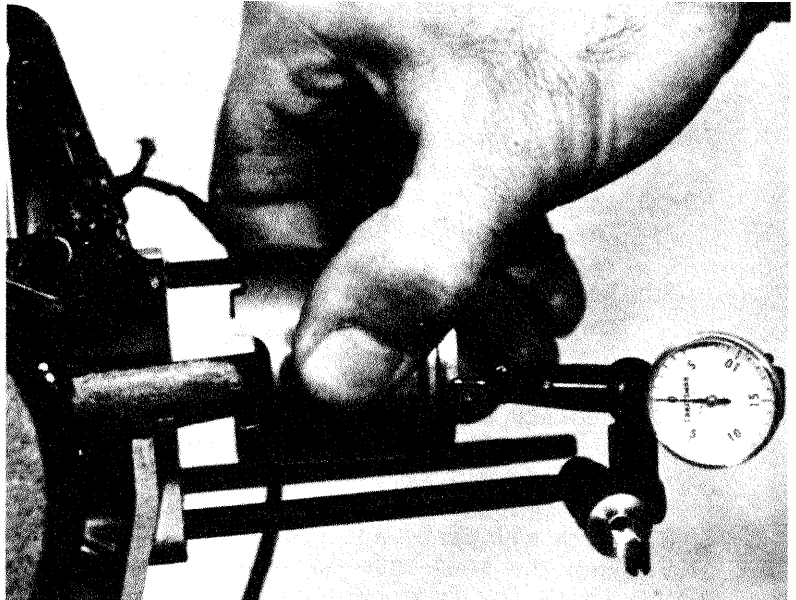

Figure 19
2. Check connecting rod small end bushing for excessive play. Free play at skirt of piston should not exceed (.001 dial gage). If play exceeds this figure, replace bushing. (Figure 19)